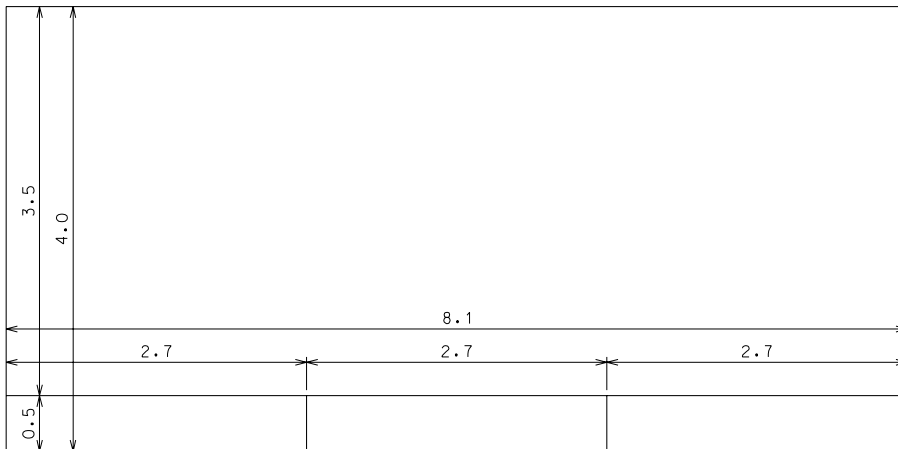

Figure P7-3 Dimensions for drawing the border and title block
STEP 1: Set the Active Level to Border, the Active Color to white (0), the Active Line Style to 0 (solid), and the Active Line Weight to 1.
STEP 2: Using Figure P7-3 as a guide, draw the border and title block.